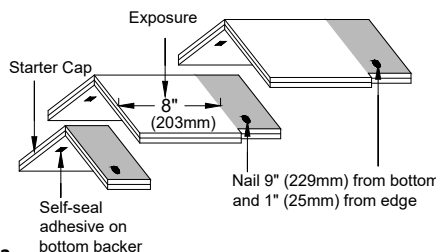

Figure 3
6. Begin laying full Ridge Cap Shingle pieces 12" x 12" (305 x 305 mm)... as shown (see Figure 3). Apply with an 8" (203 mm) exposure beginning at the bottom of the hip or from the end of the ridge, opposite the direction of the prevailing wind. Use the alignment notch in the headlap area as a guide for installing the next ridge cap shingle.
7. Apply Ridge Cap using 2 nails per piece 9" (229 mm) back from the exposed end and 1" (25 mm) up from the edge... (see Figure 3 for location of nails). Use only zinc-coated steel or aluminum, 10-12 gauge, barbed, deformed, or smooth shank roofing nails with heads $\frac{3}{8}$ " (10 mm) to $\frac{7}{16}$ " (12 mm) in diameter. Nails should be long enough to penetrate at least $\frac{3}{4}$ " (19 mm) into wood decks or just through plywood or OSB decks. Nails must be driven flush with the surface of the shingle. Overdriving will damage the shingle. Raised nails will interfere with the wind resistance of the shingles.